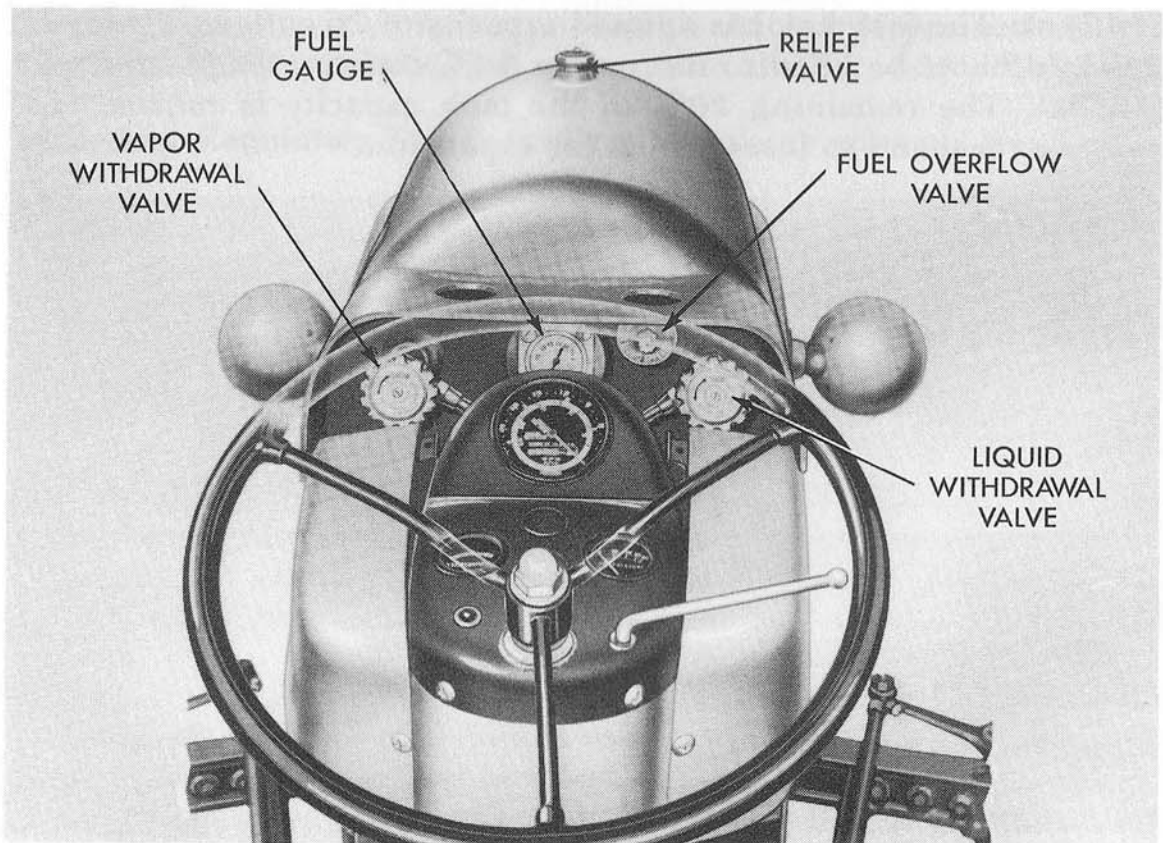
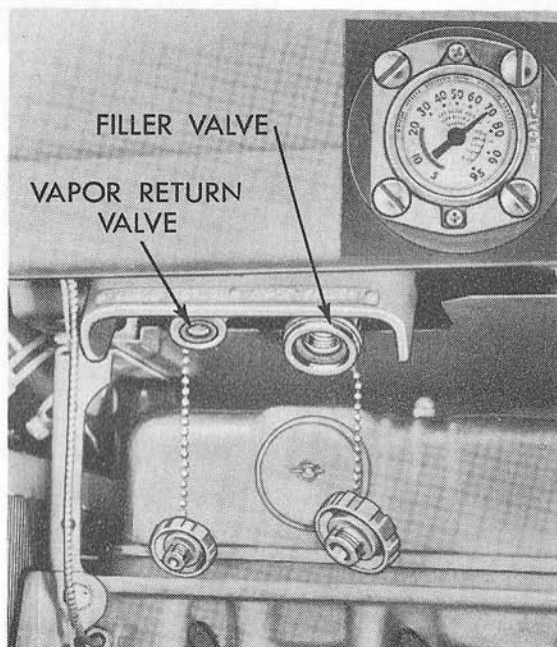

Figure 1
Figure 4
Fuel Level Overflow Valve: This manually operated valve, located next to the liquid withdrawal valve (See Figure 1), should be opened only occasionally during tank filling operations as a check to determine when the liquid volume has reached an 80 percent level in the tank.
Fuel Tank Relief Valve: This relief valve (See Figure 1) is located on the top of the tank, at the forward end and functions as a safety valve against excessive tank pressures. It is factory set at 312 pounds per square inch and should not be tampered with.
Auxiliary Fuel Connection: This connection (See Figure 1) located in the tank line, just behind the fuel filter, is used for attaching portable LP-Gas bottles. A portable bottle may be used when it is not convenient or desirable to fill the tractor fuel tank. The liquid and vapor withdrawal valves at the rear of the tractor fuel tank should be closed and the engine operated until the fuel is exhausted. Then, remove the auxiliary fuel connection cap. These valves should remain in the closed position when operating the tractor from a portable bottle.
3. When the fuel gauge indicator needle (see insert Figure 4) shows that the tank is approximately 75 percent full, open and close the fuel overflow valve (Figure 1) at intervals until liquid fuel appears. This will indicate that the tank has an 80 percent liquid fill. Close the valve as soon as liquid appears.